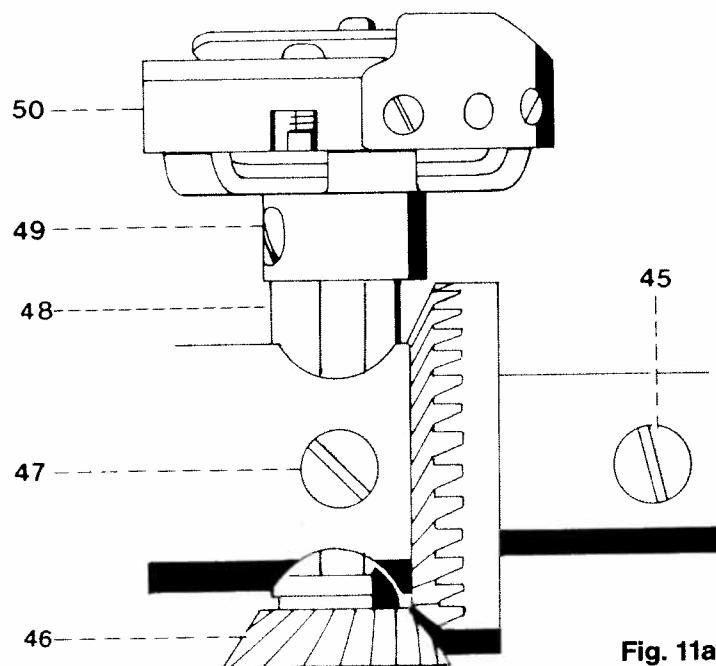

Fig. 11a
- Loosen screw 45 in the lifting eccentric by 2–3 turns (Fig. 11a).